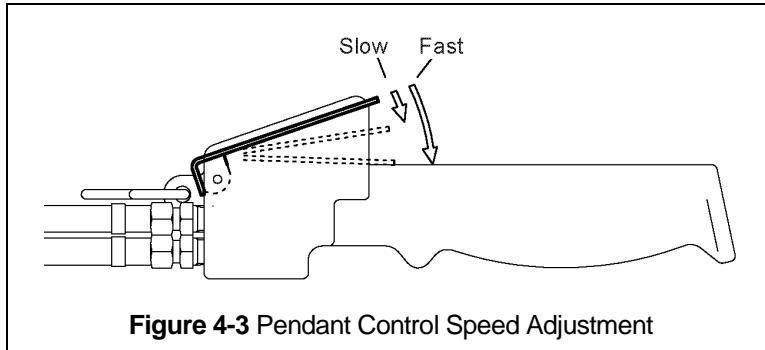

**Figure 4-2** Cord Control
4.3.3 Cord Control – When using a hoist with cord control, pull down on the appropriate colored cord to raise or lower the hoist. White indicates the raise control and red indicates lowering control. Release the cords to stop the hoist. Refer to Figure 4-2 below.